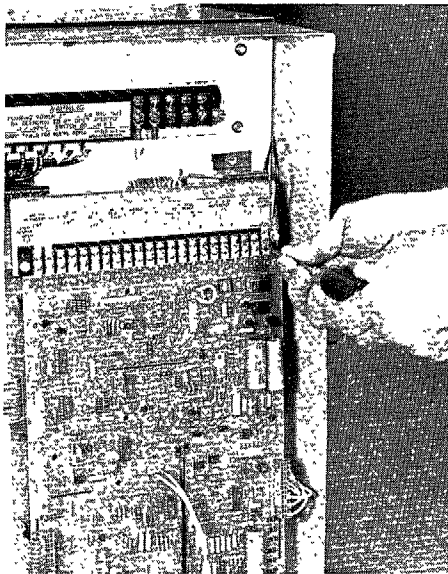

FIGURE 21
5. Loosen all 22 bottom screws on terminal board 2TB. (see Fig. 21)